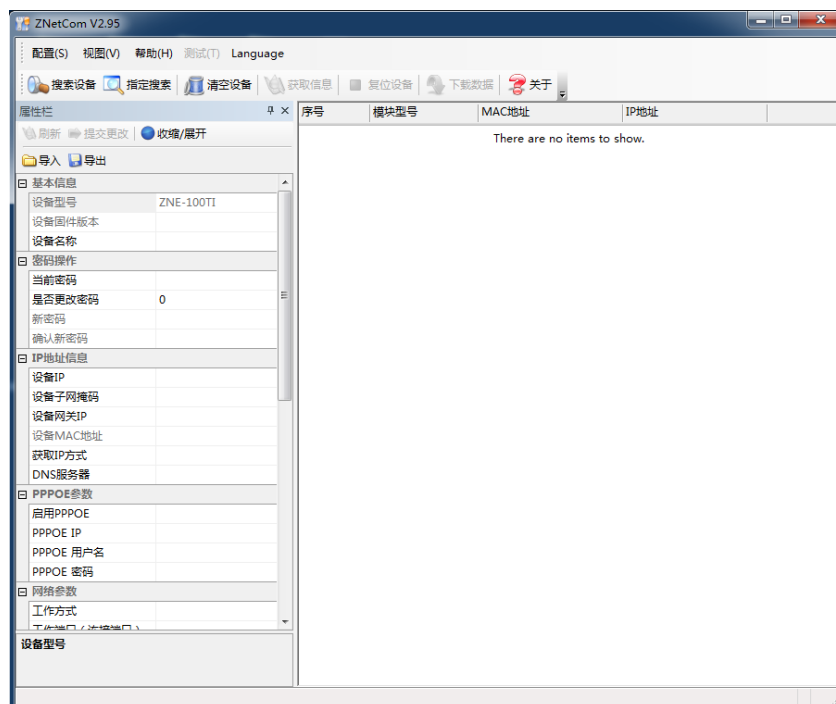

Figure 4.2 ZNetCom running interface
3. Double-click to run the ZNetCom software (if the system is later than Windows 7, right-click it and run as administrator). The interface shown in Figure 4.2